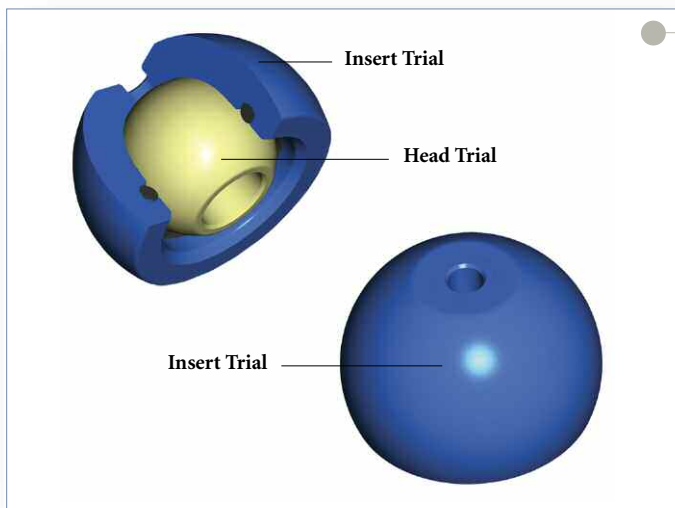

Figure 12b
- ▶ Place the 28mm Head Trial into the appropriate Insert Trial to mimic the final articulation function of the Restoration ADM System (Figure 12b). The size of the insert trial will correspond with the cup being implanted. When implanting a 48mm shell for instance, a 48mm Insert Trial (28/48) and 28mm Head Trial should be used. Place the insert/head trial unit onto the stem trunnion component and reduce the hip, checking for hip stability and the restoration of leg length. Fine tuning of Hip Joint Mechanics may be achieved with the use of +/- offset trial heads.